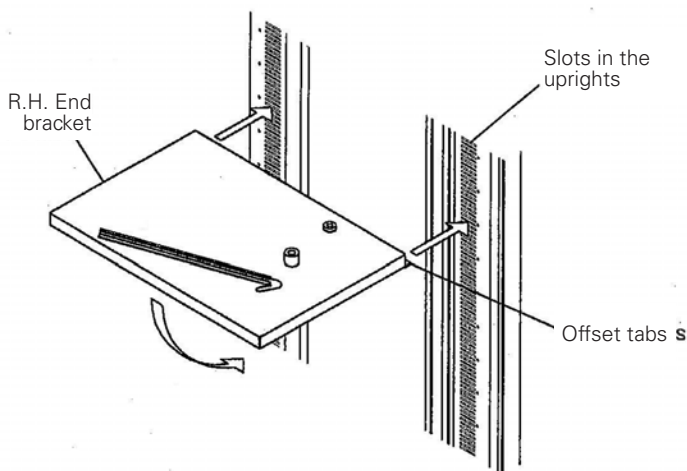

Figure 2
2. Starting at either side of the cabinet, hold an end bracket horizontally and insert its two offset tabs into the slots in the uprights (see Figure 2). Then let it pivot downward and hang vertically. Install the other end bracket the same way.